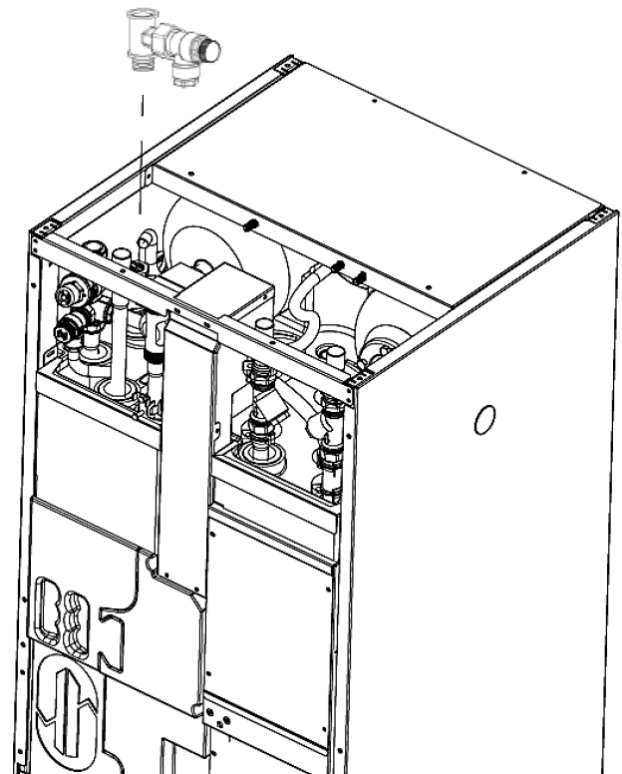

Fig. 108 : Pressure Relief Valve
5. Remove fast-fit PRV assembly part shown in Fig. 108.